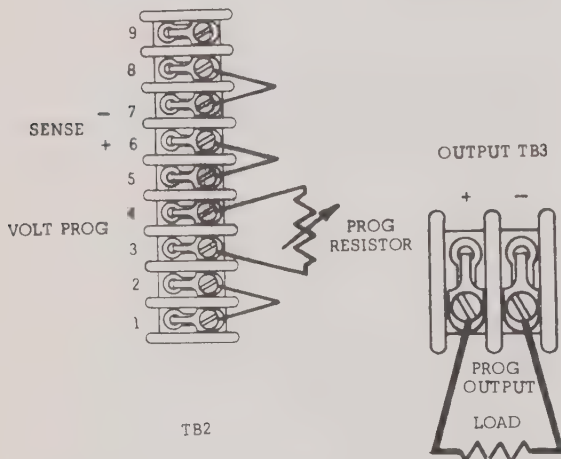

Figure 4-3. Voltage Resistance Programming
- c. Connect programming resistor across terminals 3 and 4 (see Figure 4-3 for diagram representation of voltage programming hook-up).